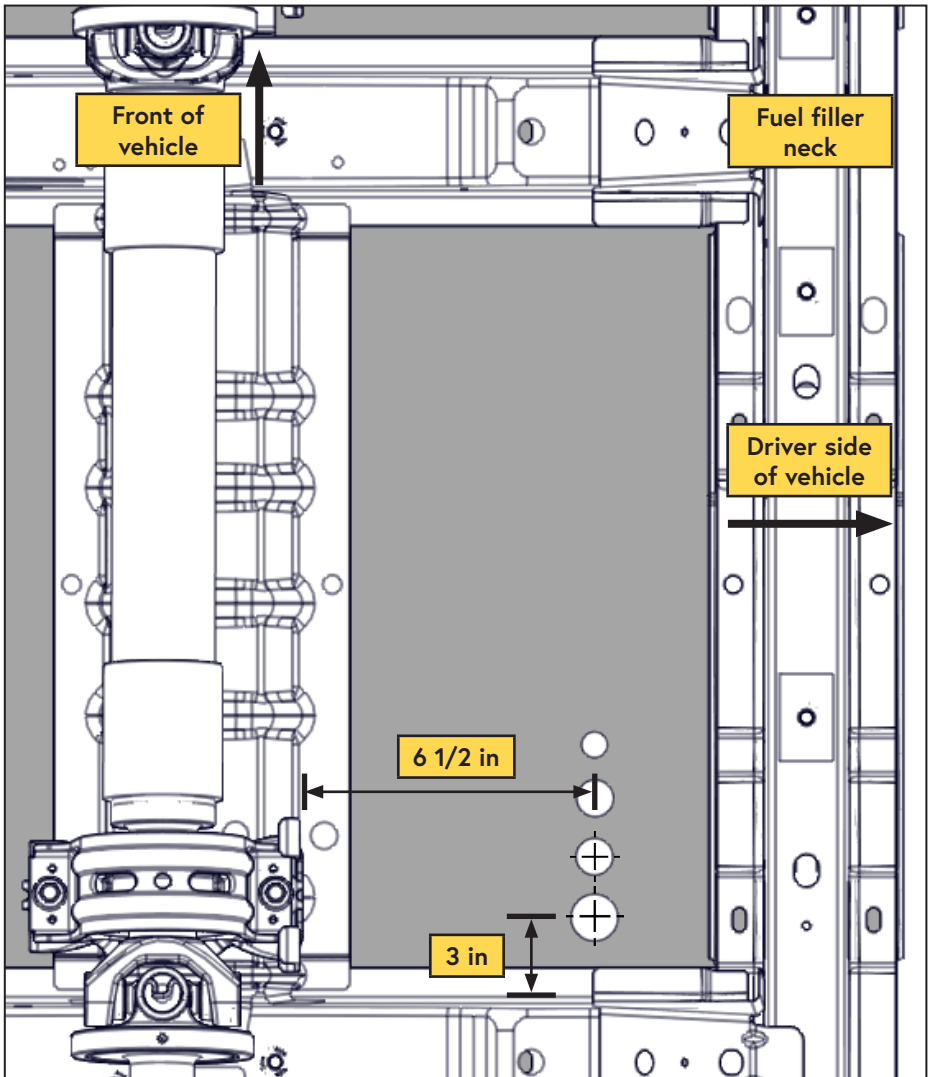

Figure 33 — Vehicle Chassis bottom view
- Locate the area shown, it is to the rear of fuel filler neck on the driver side floor. The holes are shown for clarity and will be drilled in the following steps (Figure 33).